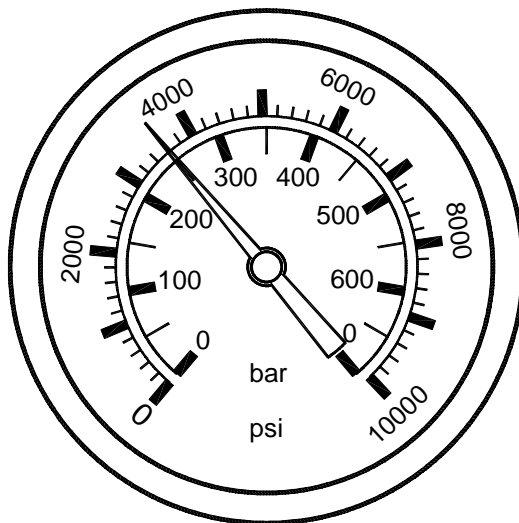

Fig. 3 (Pressure gauge dial)
3. Observe the pressure gauge mounted on the control panel (See fig. 3). Adjust the engine speed, gradually until the required operational pressure is reached.